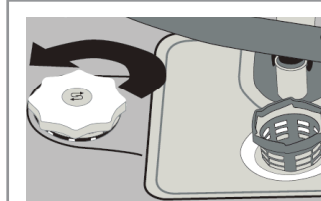

fig. 2
1. Remove the lower dishwasher basket and then unscrew the salt compartment cap, as shown in figure 2.